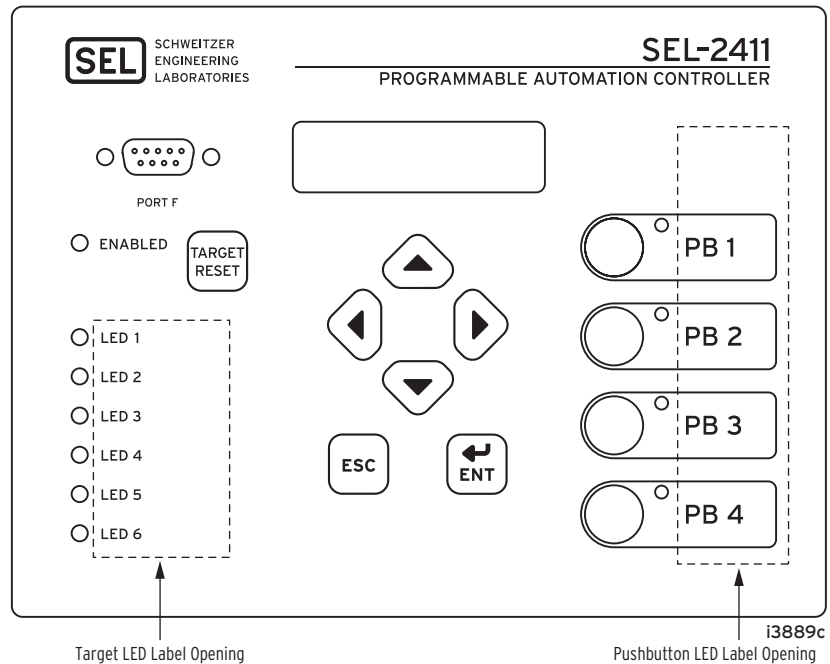

Figure 1 SEL-2411 Configurable Labels Area With Factory Default Labels
The SEL-2411 Configurable Labels Kit (shipped with each device) provides the materials and information needed to customize the front panel. *Figure 1* shows the location of the pocket area and opening.
Use the default label supplied with the relay.	See Figure 1.
- Step 2. Slide the tip of the tool under the label at the label pocket opening (see *Figure 1* for opening locations).